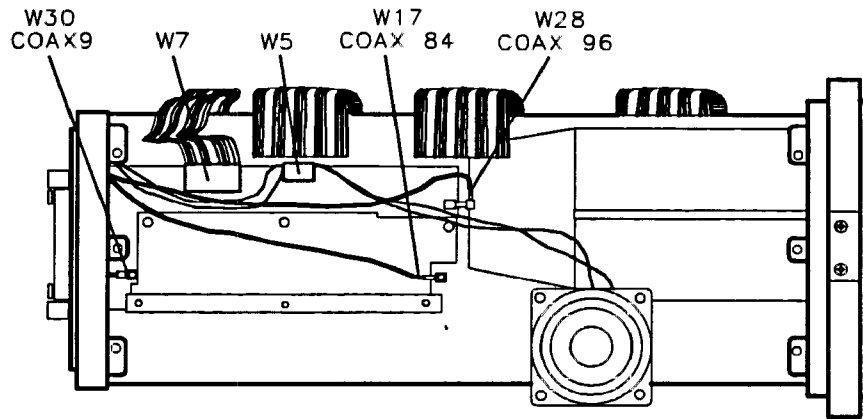

Figure 3-24. A16 Cable Routing
2. Connect all A16 Assembly cables as illustrated in Figure 3-24 which shows the left-side frame removed so that proper A16 Assembly cable routing may be viewed. Place the assembly into the center-deck mounting slot nearest the left-side frame.